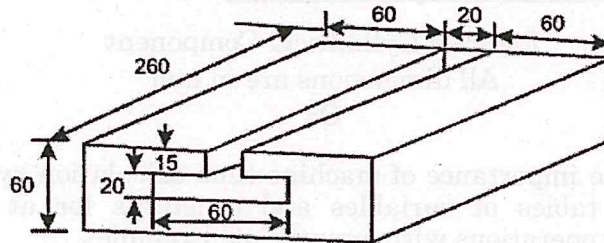

Figure 3
15. (a) A T-slot is to be cut in a C.I slab as shown in figure 3. Take cutting speed 25 m/min feed is .25 mm/rev. Diameter of cutter for channel milling is 80 mm. Estimate the machining time.